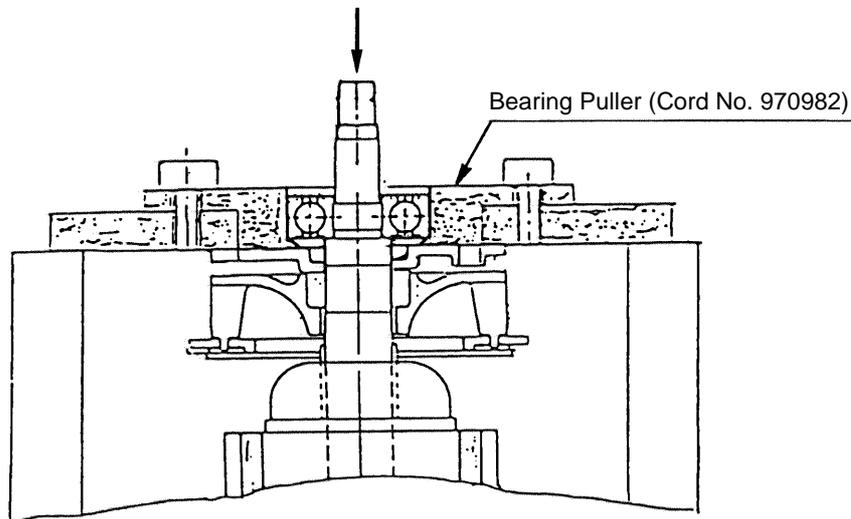

Fig. 1
- (1) Loosen the two M5 x 20 Screws (30) and remove the Wheel Guard Ass'y (33).
- (2) Loosen the two D4 x 35L Tapping Screws (47) and the D4 x 20L Tapping Screw (48), and remove Tail Covers A and B (58) (46).
- (3) Remove the two Carbon Brushes (49) from the Brush Holders (50).
- (4) Remove the four D5 x 25 Tapping Screws (2).
- The Armature Ass'y (13) can then be taken out simultaneously with the Gear Cover Ass'y (4), Packing Gland (26), and related parts.
- (5) Remove the four M5 x 16L Seal Lock Screws (27).
- The Packing Gland (26) can then be taken out together with the Spindle (29) and Gear (20).
- (6) After removing the three M4 x 10 Seal Lock Screws (1), the Armature (13) can be extracted together with the Bearing Cover (12), and related parts.
- (7) Carefully wrap the Armature Ass'y (13) with a soft, clean rag to protect it from being damaged, and clamp it securely in a vise. Then, remove the M7 Nut (5), and extract the Pinion (6).
- (8) For the models indicated under Fig. 1, the Ball Bearing (9) can be removed from the Armature (13) by utilizing a J-204 Bearing Puller (special repair tool Code No. 970982) as illustrated. After the Ball Bearing has been removed, the Bearing Cover (12) can be easily taken off.